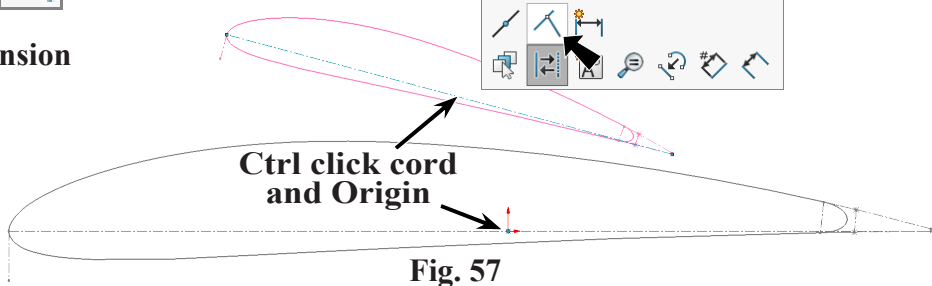

**Fig. 55**
Step 6. In Insert Block Property Manager, click **Browse**, **Fig. 55** in the Open dialog box, navigate to **Documents\Tech Ed 22-23\Air-master** and open **AIRFOIL4412** block file